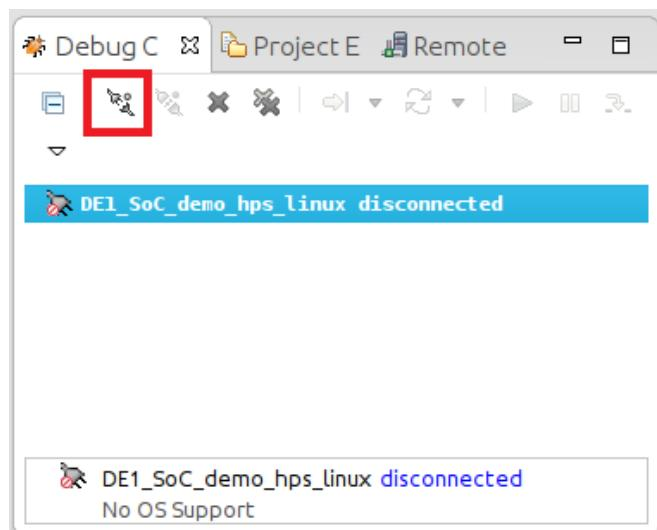

Figure 13-34. Debug Control View
82. In the “Debug Control” view, click on the “DE0\_Nano\_SoC\_demo\_hps\_linux” entry, then click on the “Connect to Target” button, as shown on Figure 13-34. The debugger will start an SSH connection to the linux distribution running on the DE0-Nano-SoC and will automatically transfer our binary file and wait at our application’s “main()” function. If you are prompted to log in, then log in with the **ROOT** user and password.